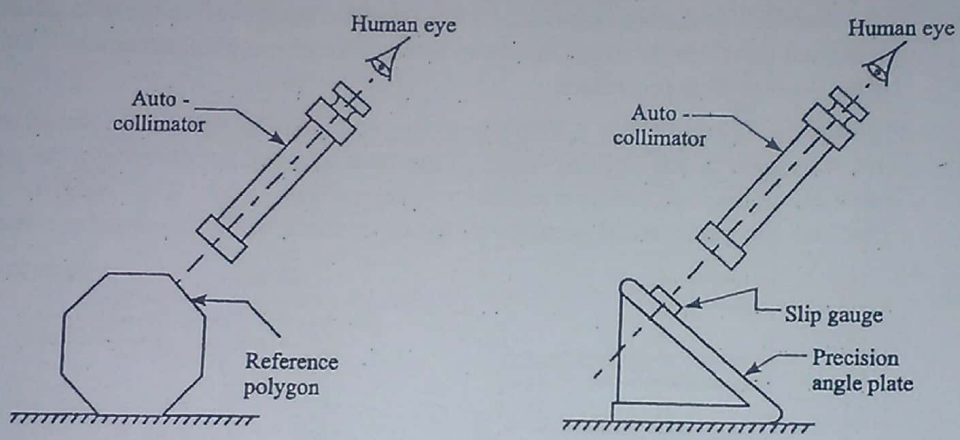

Fig. 4.91. Use of auto-collimator.
**Application of auto-collimator.** The auto-collimator can be used for measurement of angles of *surfaces which are of reflective nature.* Thus newly machined and polished surfaces will reflect. In case the *surface does not reflect then a parallel slip gauge is wrung to the surface.* Fig. 4.91 shows the use of auto-collimator to *compare the angle of a precision angle plate with that between two faces of an eight-edged reference plane :*